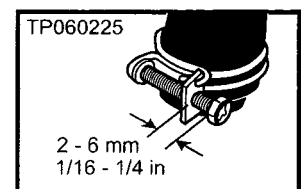

Figure 71
35. Tighten the fuel filler hose clamp at the tank so the distance between the bolt head and metal plate is set to the proper dimension (see Figure 71).